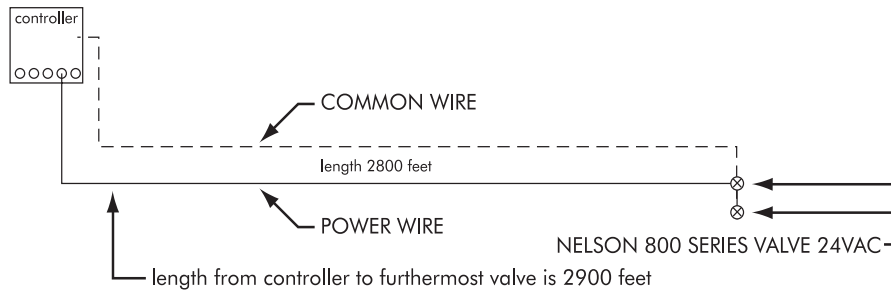

Figure 9
STEP 3. Calculate the allowable wire resistance for the valve furthest from the controller. See the distances shown in Figure 9 schematic. Use the inrush for two valves of $2 * .278 = 0.556$